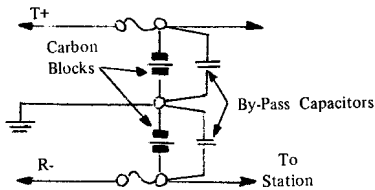

FIGURE 1. Capacitor Installation on Station Protector
4.03 Two capacitors are required for RFI suppression at the station protector (see Figure 1). It may be necessary to substitute capacitors of various values until interference is eliminated. It is desirable to employ the minimum capacitance necessary to eliminate the trouble. Thus, 0.03 μ f units would not be used if 0.01 μ f capacitors would clear the line and in no event would 0.01 μ f and 0.02 μ f or similar unequal combinations be employed. Install capacitors as follows: